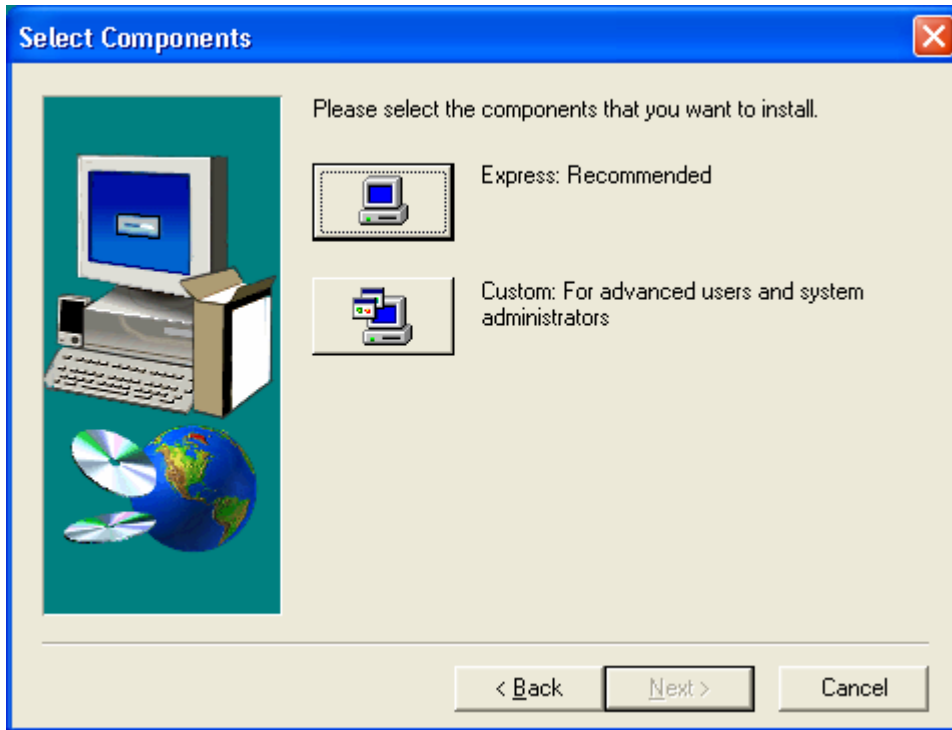

Figure 6-4: Select Components
Step 5: Read the license agreement. To accept the terms and conditions stipulated in the agreement, click YES and the Select Components screen appears (Figure 6-4).
Step 6: There are two options for express or custom software installations. Click EXPRESS to continue (Figure 6-4).